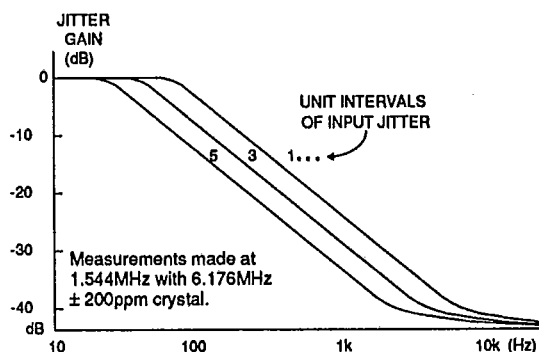
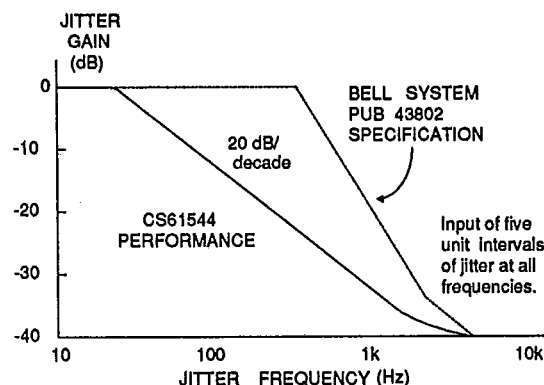

Figure 5 - CS61544 Jitter Attenuation Curves
Figure 6 - Jitter Attenuation Characteristics
8. Crystal pull range: ± 200 ppm. Five unit intervals of input jitter. Slope above corner frequency is -20dB/decade . See Figure 5.
The 61544 will tolerate and attenuate at least seven unit intervals of jitter (peak-to-peak) from a T1 signal. Figure 5 shows a family of curves which show the jitter attenuation achieved by the 61544. Each curve shows the jitter attenuation for a signal with constant jitter amplitude over a range of jitter frequencies. The more jitter a signal has, the more the jitter is attenuated. The jitter attenuator on the transmitter side meets the jitter attenuation and input tolerance specifications of AT&T Publication 43802, as shown in Figures 6 and 7.